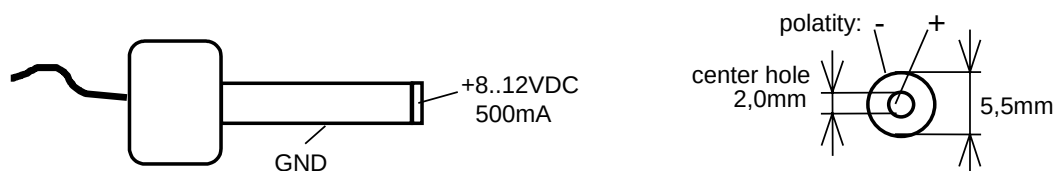

Figure 3: Power Connector
- Using the supplied power adapter, connect the power socket on the board (P3) to a power supply (refer to *Figure 3* for the right polarity).